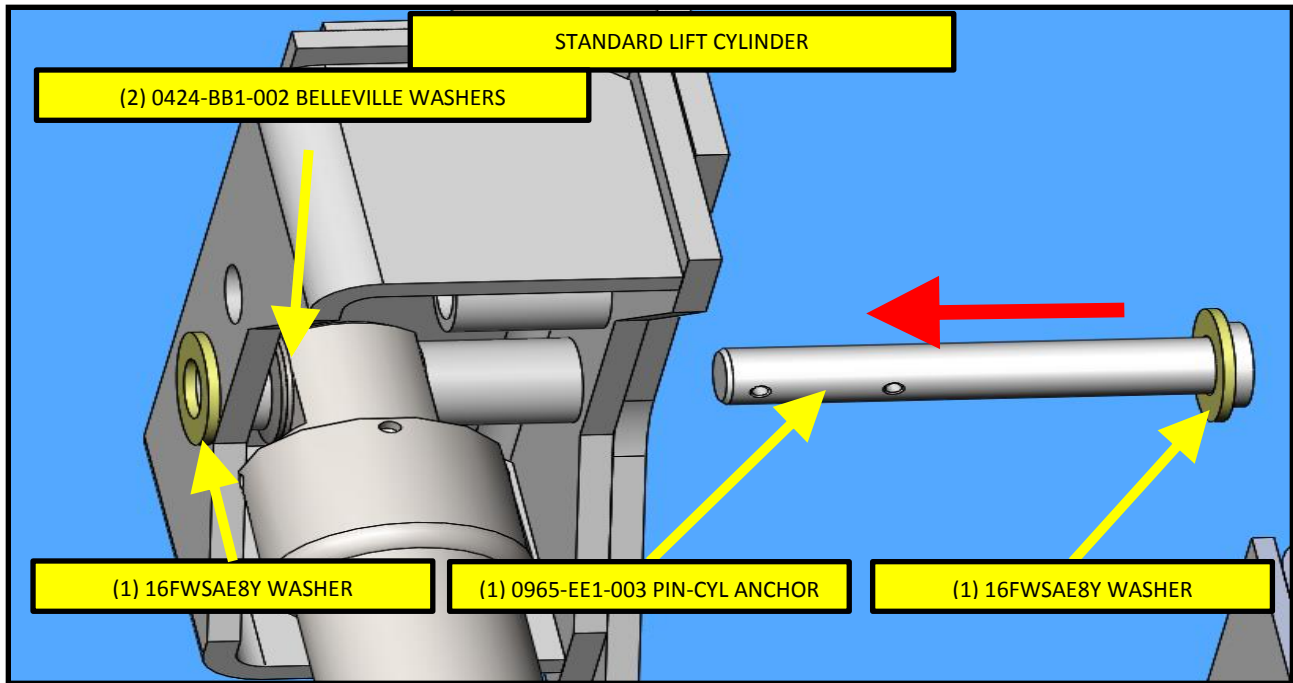

FIG. 10-1
- c. The Belleville washers will compress upon installation. The interference between the inboard 16FWSAE8Y washer and the lift cylinder, will be removed once the (2) 0424-BB1-002 Belleville washers are compressed.
- a. Locate (2) 16FWSAE8Y washers and (2) 0424-BB1-002 Belleville washers then slide 0965-EE1-003 pin cylinder anchor into place. Refer to FIG. 10-1.